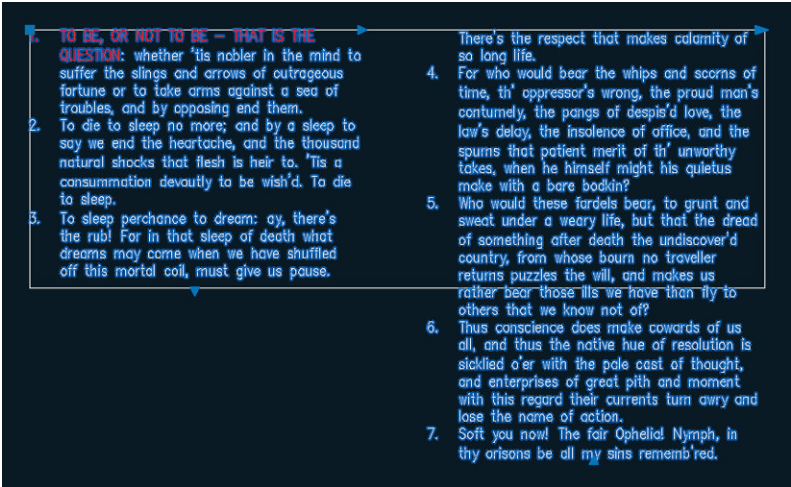

FIGURE 10.15 Moving the middle grip to the left to resize columns
2. Click the Column Width (middle) grip, and move it to the left to reduce the size of both columns simultaneously. Click to set its new position. Click and move the right grip until it reaches the right edge of the rectangle, and then click to set its new position (see Figure 10.15).